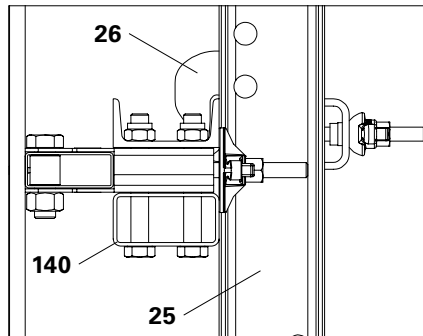

Fig. C1.05
6. Mount Waler Fixation U 100 – U120 (**26**) and secure in position by tightening the Quick Jack Nut. (Fig. C1.05 + C1.05a)
- Does the U-profile of the Formwork Waler 150 CB point upwards? (Fig. C1.05 + C1.05a)